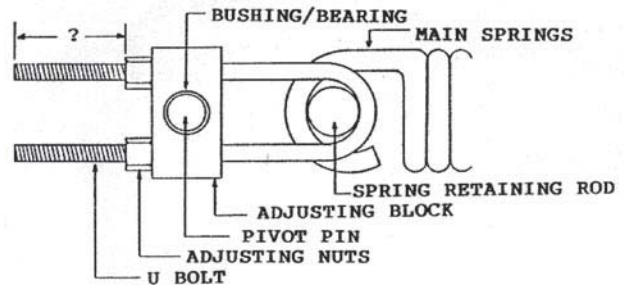

Figure 2
4) Turn off the four main spring 'U' bolt adjusting nuts, Figure 2, counterclockwise. Maintain approximately the same tension on each nut by making four full turns on each nut and repeating. Check blocking as the weight is transferred onto them to assure they remain in a position that will insure the deck and lip will not lower.